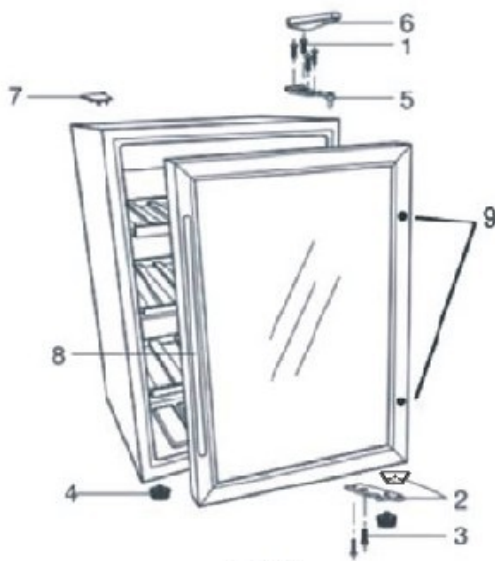

Fig. 3
- Open the door and slightly pull back the door gasket behind to reveal the two (2) holes and screws that secure the handle to the door.
- Using a screwdriver (not included), remove the handle (Fig. 3: No. 8) by rotating the two (2) screws counterclockwise. Remove the screws and washers and place in a secure location. Place handle on a padded surface.
- On the opposite side of the door, you will notice two (2) filler screws (Fig. 3: No. 9) covering the holes where the handle is to be installed. Using a flathead screwdriver (not included) remove the two (2) filler screws (Fig. 3: No. 9) by rotating clockwise from the inside of the door
Note: Do not attempt to remove these filler screws (Fig. 3: No. 9) from the exterior of the door as you cause damage to the stainless steel door frame.
- Mount the filler screws (Fig. 3: No. 9) over the holes on the opposite side of the door.
- Install the handle (Fig. 3: No. 8) on the desired side. (See "Installing the handle" section on page 6)